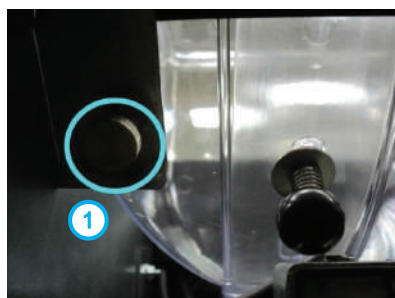

Fig.5.7
With open vending machine door, pull the container's clamp (1), which is located in the left upper corner of the machine (see fig.5.7) and holding the clamp remove the container.